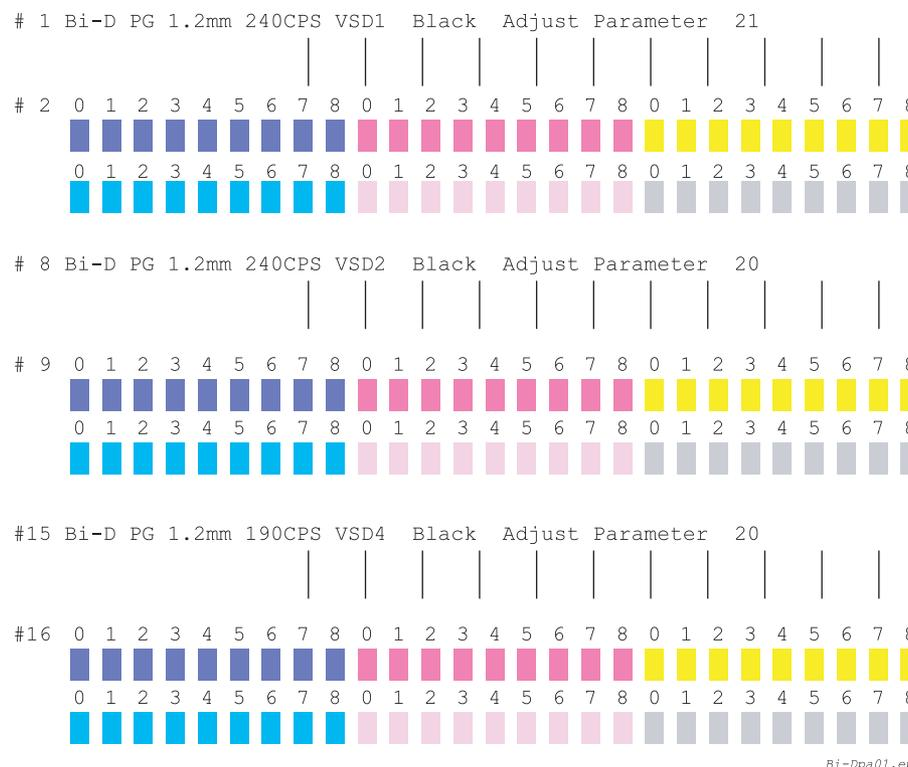

Figure 5-53. Print Patterns for Bi-D Adjustment Checking
**NOTE:** Figure 5-53 shows the print patterns for PG1.2mm. The patterns for PG0.7mm and PG2.1mm will also be printed.